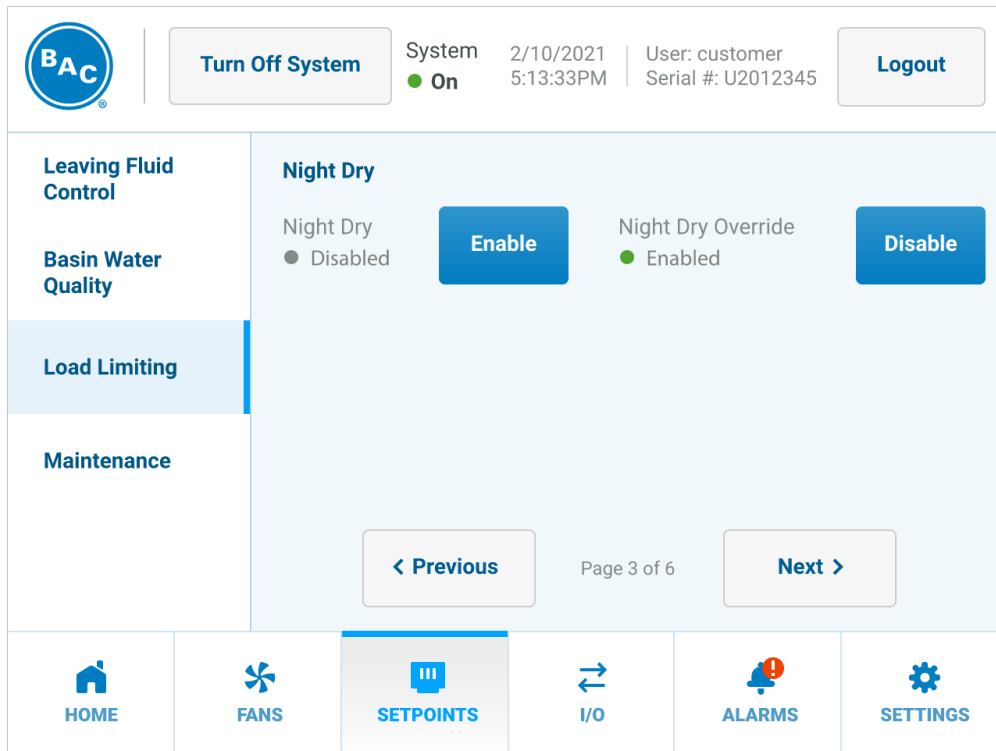
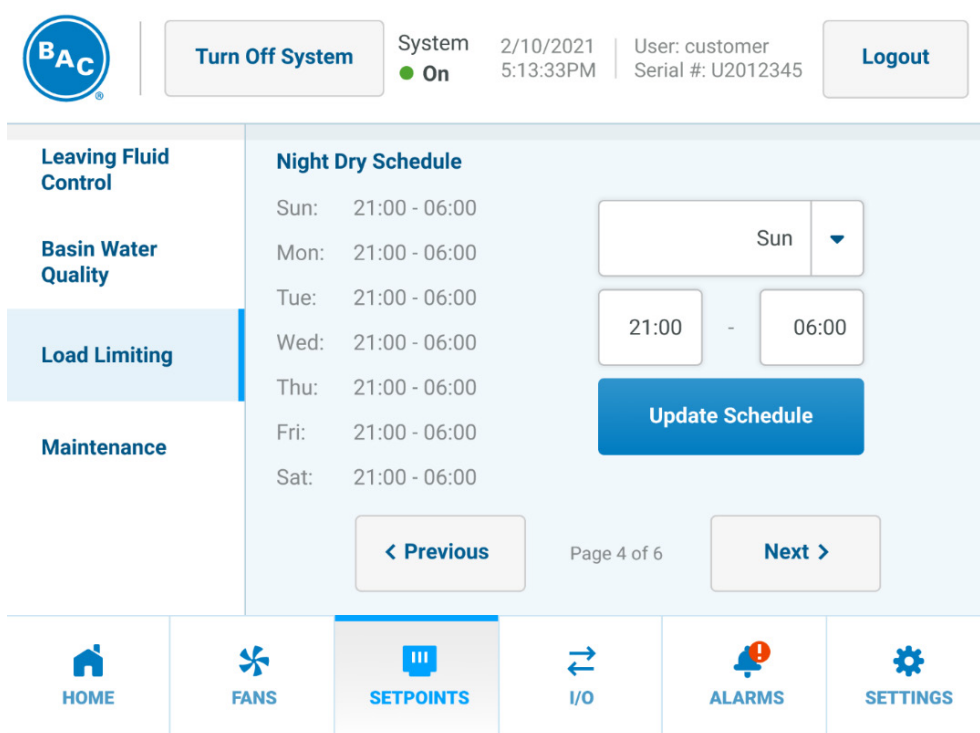

Figure 134. Setpoints Menu, Load Limiting Page 3 of 6
Figure 135. Setpoints Menu, Load Limiting Page 4 of 6
- Night Dry load limiting mode shown in **Figure 134** and **Figure 135** with parameters listed in **Table 90**.
Night Dry Enable/Disable	Allows user to either enable or disable the feature. If enabled, no water will be used during the times set in the schedule shown in Figure 135 .
Night Dry Override	If enabled, no water will be used regardless of the schedule shown in Figure 135 . In addition to the on-screen button, the override can also be enabled with the “NightDryOverride” variable in Table 151 .